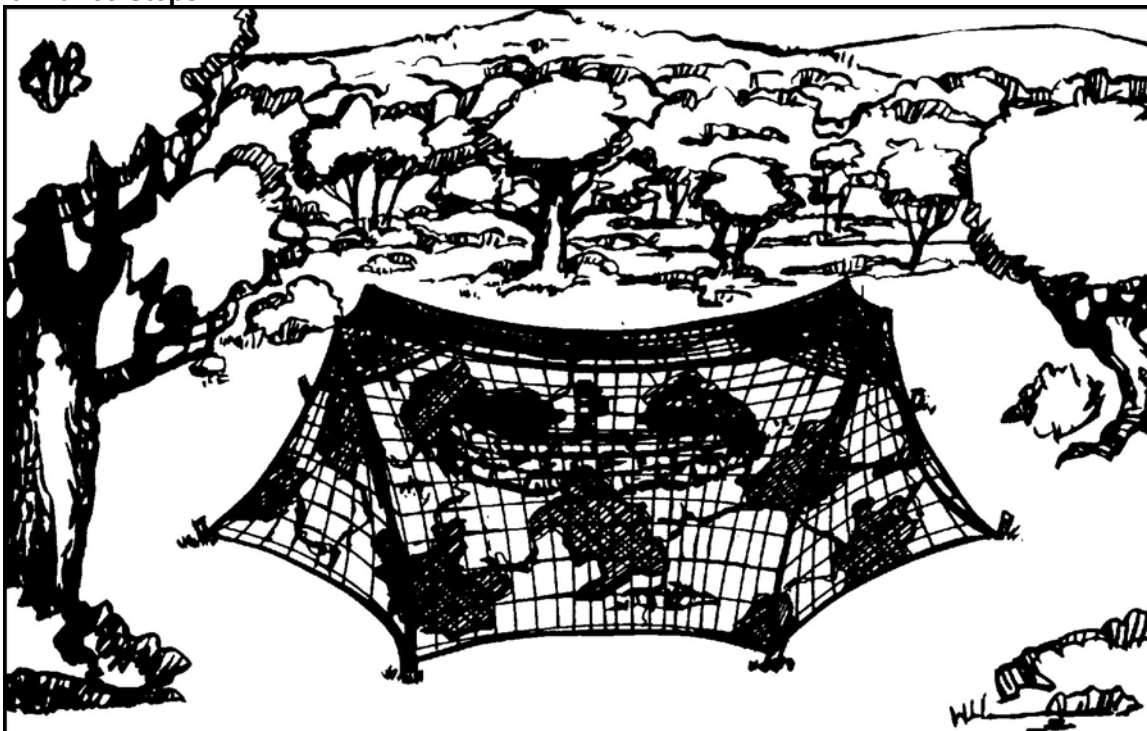

Figure 1. Nets used for camouflage.
- (1) When using nets with either the ground-mounted or carrier-mounted mortar, raise the nets above the ground-mounted position or the top of the carrier (Figure 1).